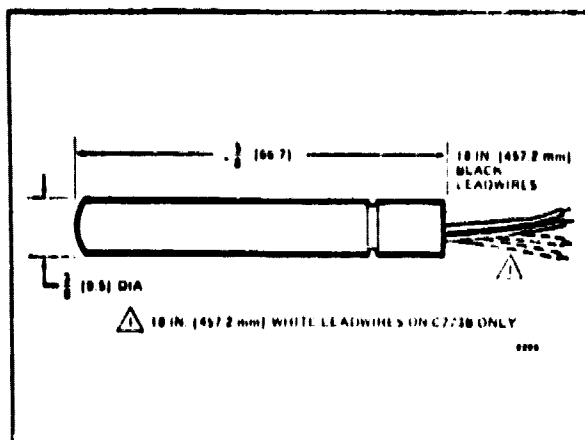

FIG. 2-C773A,B DIMENSIONS IN INCHES (MILIMETRES IN BRACKETS).
**DIMENSIONS:** See Figs. 2 and 3.